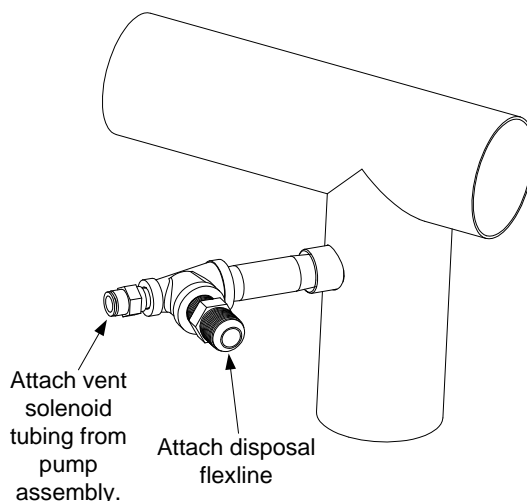

Figure 3: Attach new fitting assembly (1084133) to drain dump.
8. Attach the new fitting assembly (1084133) to the drain dump as shown in Figure 3.
14. Attach the 17 1/2" disposal flexline from the front of the assembly to the new fitting installed on the drain dump assembly in step 8. See Figures 3 and 7.
15. Attach the vent solenoid tube disconnected in step 6 to the fitting on the drain dump assembly. See Figure 3.